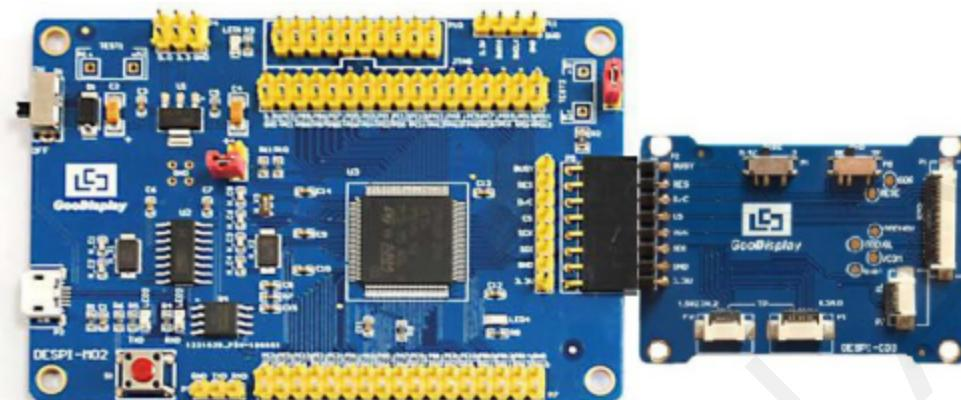

Figure 3 : Connection between DESPI-M02L and DESPI-C03
- 1) Connect DESPI-C03 to DESPI-M02L as shown in Figure 3.